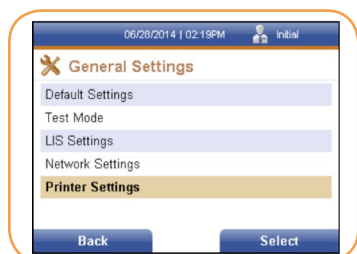

FIGURE 26
5. Once all information has been entered, press the right soft key to accept the information, or the left soft key to discard any changes made. Either selection will return the user to the previous menu (Figure 26).